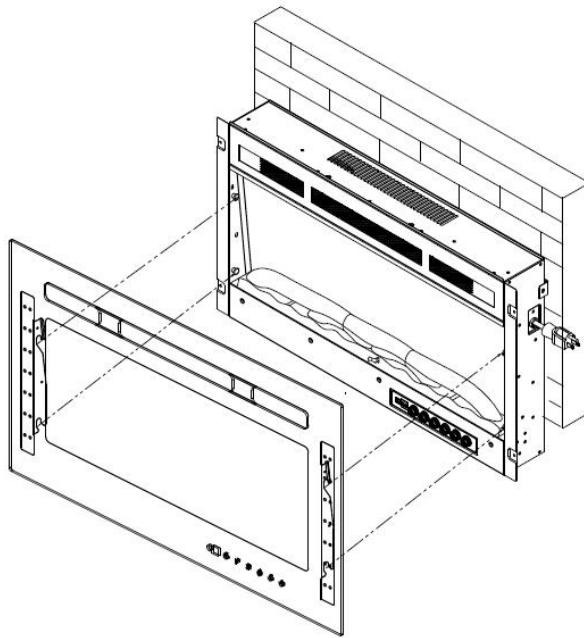

Fig.7
H. Place the front panel lock the appliance.Fig.7